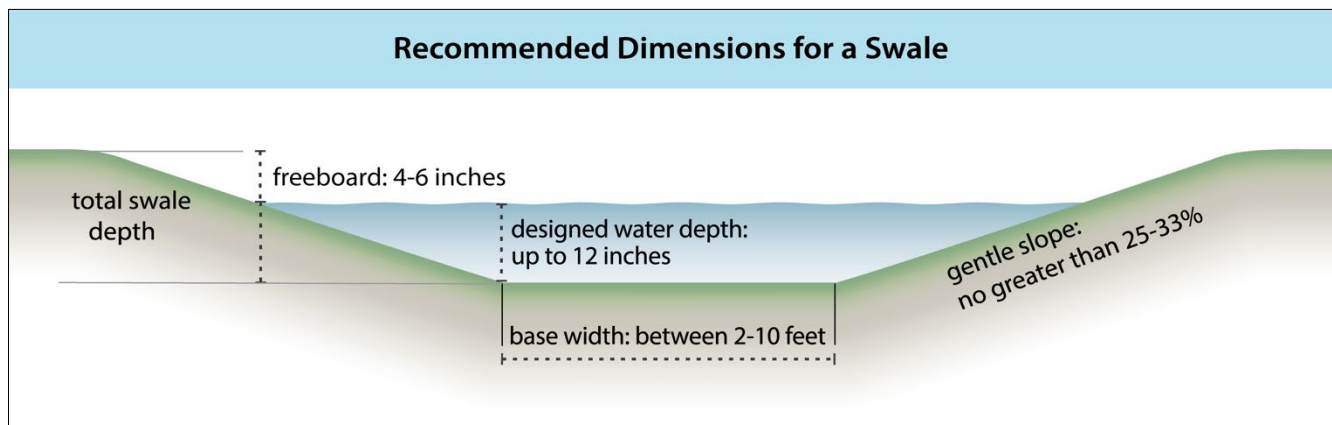

Figure 1. The recommended shape, width, side slope, and depth for a vegetated swale.
- **Swale shape** - Generally, swales are most effective when designed as a trapezoidal channel (see Figure 1), which provides area along the swale base, side slopes, and length for water to infiltrate.
- **Base width and side slopes** - As discussed in “Swale Location and Design,” the swale base should be 2-10 feet wide and the side slopes should be no greater than 25-33% (see Figure 1). *For this example, a **3-foot base width** and a **25% side slope** were selected.*
- **Designed water depth** - The swale should be designed to hold the first 1 inch of runoff from the contributing drainage area and be a minimum depth of 12 inches (see Figure 1). These design specifications help avoid potential scour of swale surfaces, prevent drowning of plants, and ensure adequate water quality treatment for this “first flush” of stormwater, which typically contains the highest pollutant concentrations. *For this example, a **designed water depth of 1 foot (12 inches)** was selected.*
- **Freeboard and total swale depth** - While rainfall events of more than 1 inch are relatively rare in Massachusetts (less than 10% of storms), the swale should be built with added depth (known as freeboard) to prevent potential spillover or overtopping during these larger storms. Approximately 4-6 inches of freeboard should be added to the designed water depth to get total swale depth—measured from the bottom of the swale (lowest point of excavation) to the top of the swale (ground elevation of the surrounding land) (see Figure 1). *For this example, **0.5 foot (6 inches) of freeboard** was selected for a total swale depth of **1.5 feet (18 inches)**.*